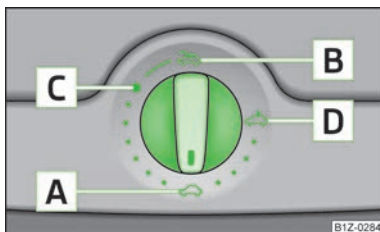

Fig. 20
The sliding/tilting roof is operated by means of the control dial » Fig. 20 and only functions when the ignition is switched on. The control dial has several positions.
If the battery has been disconnected and reconnected, it is possible that the sliding/tilting roof does not close fully. This is why the rotary switch must be set to the switch position **A** » Fig. 20 and pressed forward for about 10 seconds.
- > Turn the switch to position **C** » Fig. 20 on page 37.
- > Turn the switch to position **B** » Fig. 20 on page 37 and hold it in this position (spring-tensioned position).
- > Turn the switch to position **D** » Fig. 20 on page 37.
- > Turn the switch to position **A** » Fig. 20 on page 37.
The sliding/tilting roof is fitted with a force limiter. If an obstacle (e.g. ice) prevents closing, the sliding/tilting roof stops and opens completely. The sliding/tilting roof can be closed completely without the force limiter by turning the switch into position **A** » Fig. 20 on page 37 at the front for as long as it takes for the sliding/tilting roof to close completely » **!**
It is necessary after each emergency operation (using the Allen key) to move the sliding/tilting roof into the basic position. This is why the rotary switch must be set to the switch position  » Fig. 20 on page 37 and pressed forward for about 10 seconds.